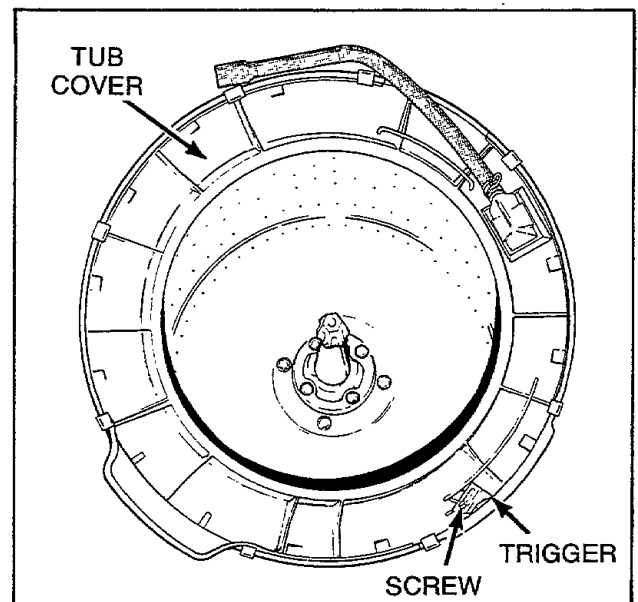

Figure 34
NOTE: The trigger is centered, *Figure 34*, on the mounting screw at the factory.
- Loosen screw holding trigger to tub cover, *Figure 34*, move trigger to the right (increases sensitivity) or to the left (decreases sensitivity).